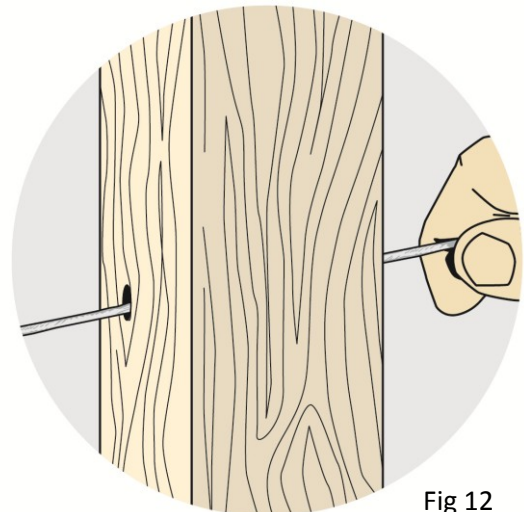

Fig 12
- b) Lace cable through intermediate posts (Fig. 12)